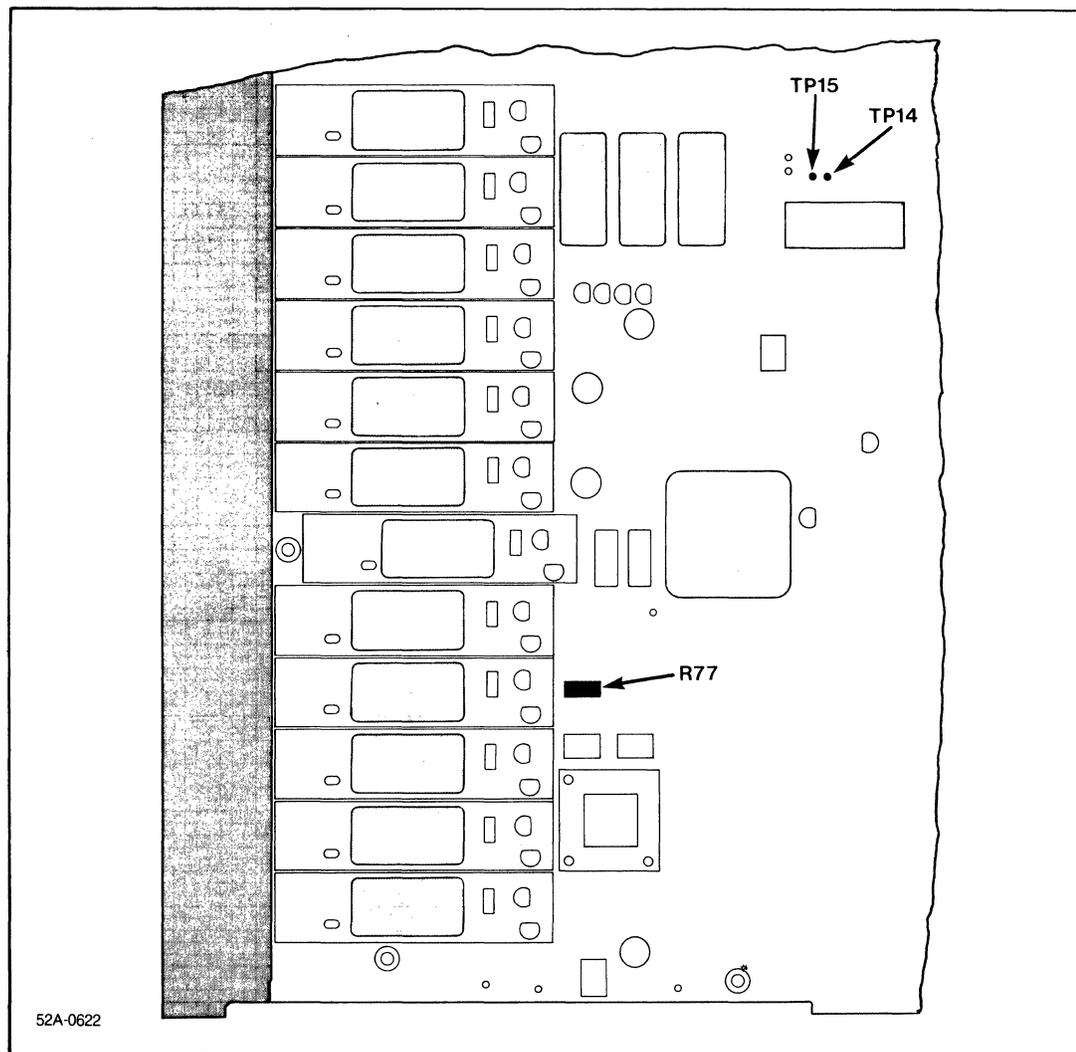

Figure 7-7. Linearity adjustment.
- 2) Connect the leads from the voltmeter to test points TP14 and TP15 on the RLYMUX card. (See figure 7-7.)
If the card is out of linear calibration, adjust potentiometer R77 (see figure 7-7) until the above test yields a voltage difference of  $18.000\text{ V} \pm 0.001\text{ V}$ .